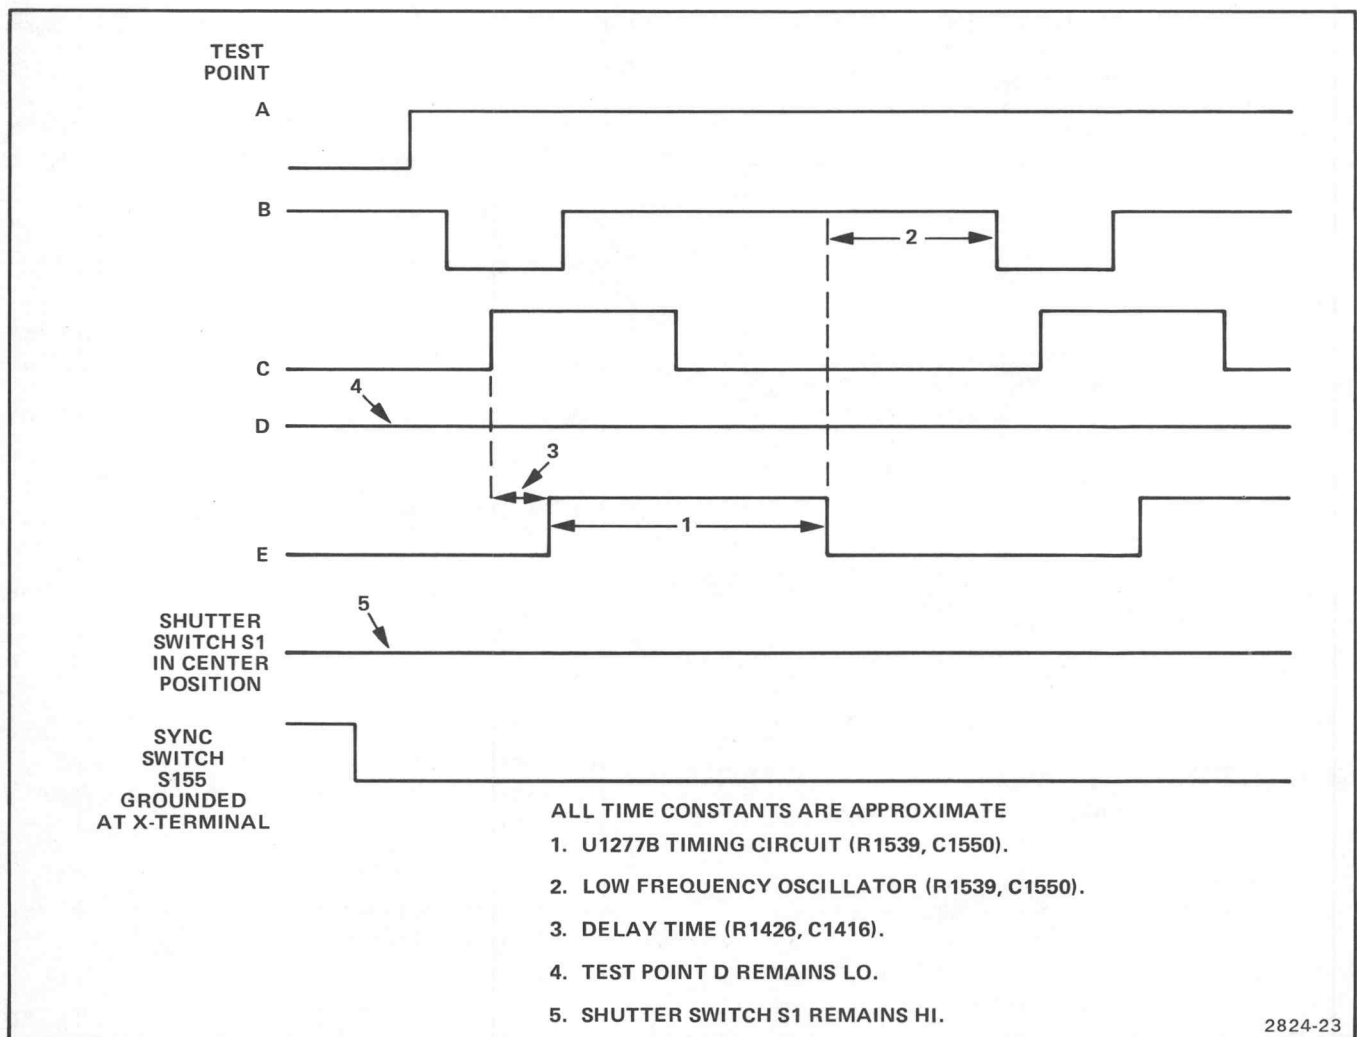

Figure 5-6. Timing diagram with X-Terminal shorted to ground.
7. Check the oscillator by shorting the X-Terminal. The shutter will operate continually until the short is removed. Figure 5-6 shows the timing diagram for the shutter circuit with X-Terminal shorted.